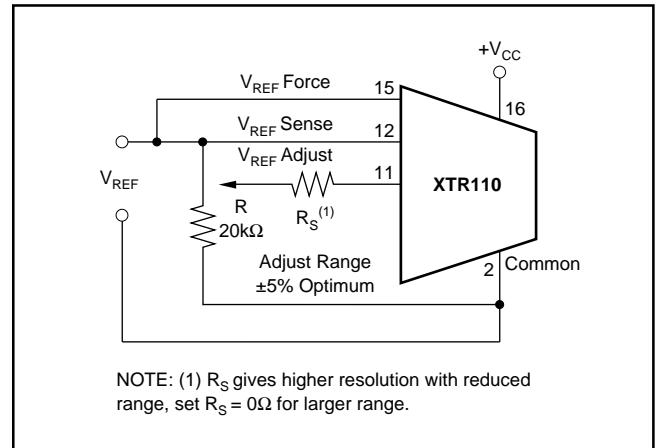
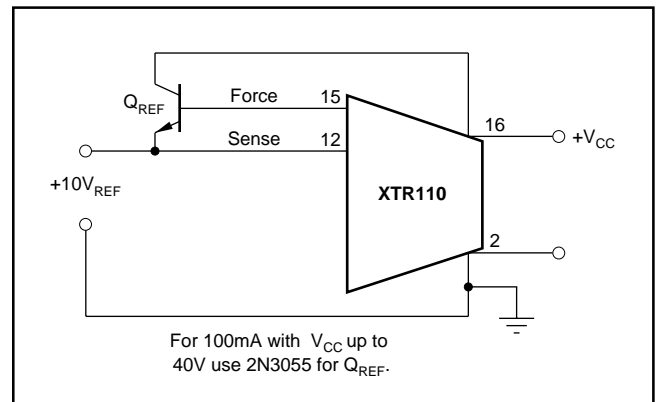

FIGURE 3. Optional Adjustment of Reference Voltage.
FIGURE 4. Increasing Reference Current Drive.
NOTES: (1) Including internal reference. (2) Span is the change in output current resulting from a full-scale change in input voltage. (3) Within compliance range limited by $(+V_{CC} - 2V) + V_{DS}$ required for linear operation of the FET. (4) For V_{REF} adjustment circuit see Figure 3. (5) For extended I_{REF} drive circuit see Figure 4. (5) Unit may be damaged. See *Input Voltage Range* section.
3 should be connected to this point. The circuit in Figure 3 shows adjustment of the voltage reference.
The current drive capability of the XTR110's internal reference is 10mA. This can be extended if desired by adding an external NPN transistor shown in Figure 4.